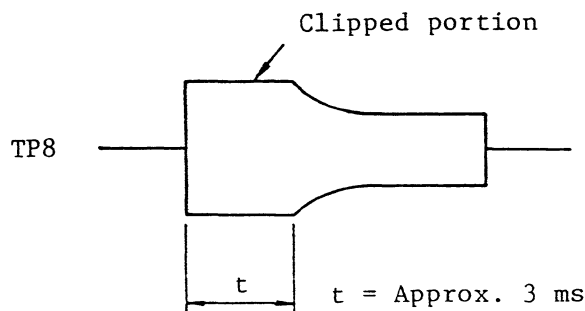

Fig. 427 Check of AGC operation
- (2) Check and adjustment procedures
- (e) Check if the waveform shown in Fig. 427 appears at TP8.
- (f) If any clipped portion shown in Fig. 427 does not appear, check if the strap S1 is open and S2 is shorted on the PCBA Drive Control.